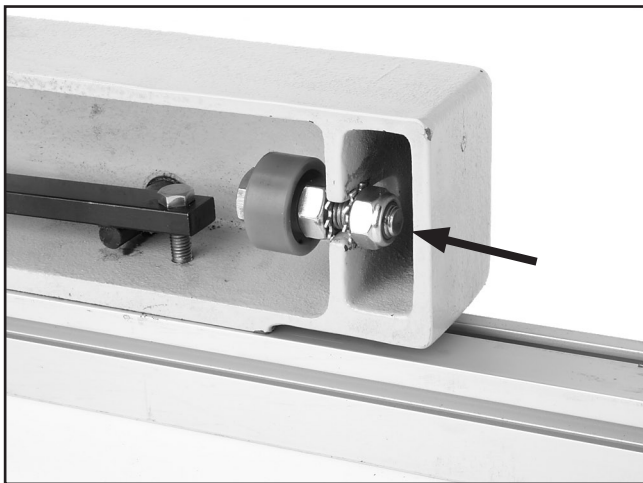

Figure 32. Rip fence height adjustment.
- If the rip fence rests on the table, loosen the hex nut shown in **Figure 32** and rotate the hex bolt to raise the roller. Tighten the hex nut to lock the height.